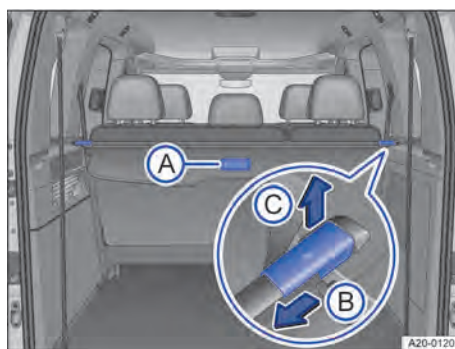

Fig. 149 In the luggage compartment: luggage compartment cover.
1. Use the handle → Fig. 149 **A** to pull the luggage compartment cover back slightly.
1. Use the handle → Fig. 149 **A** to pull the rolled-up luggage cover evenly to the rear.
1. Release the luggage compartment cover in the direction of the arrow → Fig. 149 Ⓑ and lift it up in the direction of the arrow → Fig. 149 Ⓒ.
2. Pull and hold the catch of the luggage compartment cover in the direction of the arrow → Fig. 149 Ⓑ.